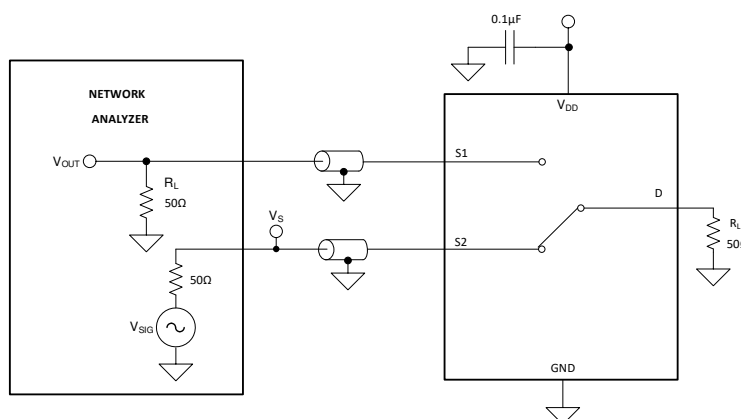

Figure 6-8. Crosstalk Measurement Setup
Crosstalk is defined as the ratio of the signal at the drain pin (D) of a different channel, when a signal is applied at the source pin (Sx) of an on-channel. Figure 6-8 shows the setup used to measure, and the equation used to calculate crosstalk.